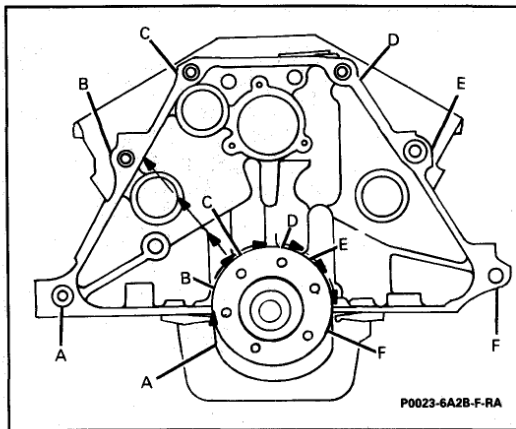

Figure 27 Transaxle Mounting Surface Checking Points
- Cylinder block flange surface runout at six mounting hole bosses (Figure 27).
1. Hold gage plate flat against the crankshaft flange (Figure 27).
3. Take and record the readings obtained on the remaining transaxle mounting bolt hole bosses (Items A-F, Figure 27). Measurements should not vary more than 0.25 mm (0.010 inch).